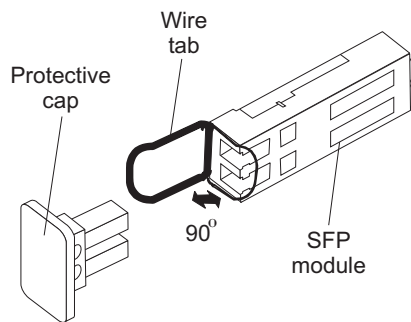

Figure 15. SFP module and protective cap
2. Remove the protective cap from the SFP module, as shown in Figure 15. Save the protective cap for future use.
2. If necessary, remove the protective cap from the SFP module, as shown in Figure 15 on page 34. Save the protective cap for future use.